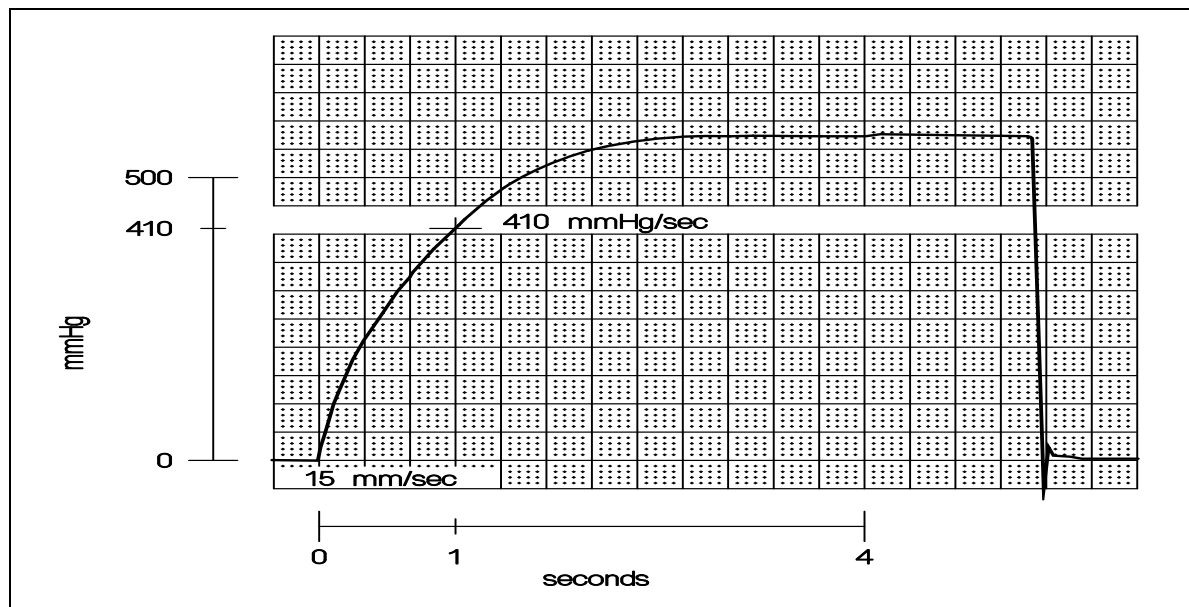

Figure 21: Calculation of Pressure Rise Rate
- In Figure 21, the pressure tracing rises from 0 mmHg at the beginning of the rise to 410 mmHg at the 1-second mark. The pressure rise rate is therefore $(410)/(1) = 410$ mmHg/sec.